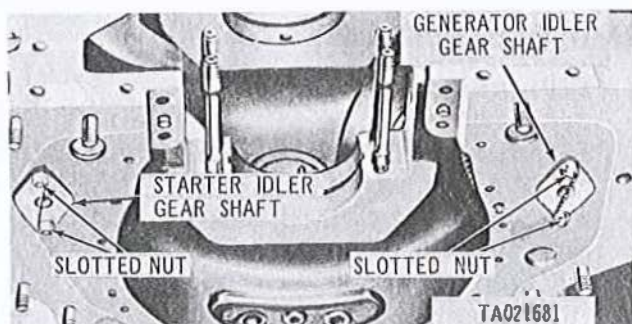

Figure 3-137. Removing or installing starter and generator idler gearshaft flange nuts.
b. Cut locking wires and remove two slotted nuts (fig. 3-137) attaching starter idler gear shaft to crankcase. Remove two slotted nuts attaching generator idler gearshaft to crankcase.